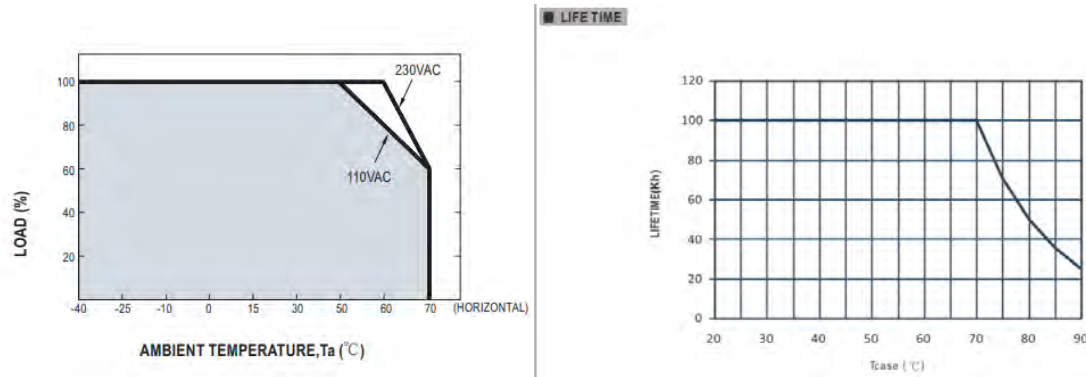

Figure 8: Performance and lifetime dependence of drivers at different temperatures.
- b) Ambient and case temperature:** It is important to note the temperature ratings if the PSU is going to be used in extreme temperature conditions as the load % as well as the driver lifetime can vary depending on temperature. For example, in Figure 8, the performance characteristics for a Meanwell driver vary depending on the input wall voltage. The lifetime drops to 50% of the value when case temperature is increased to 80 deg. C.